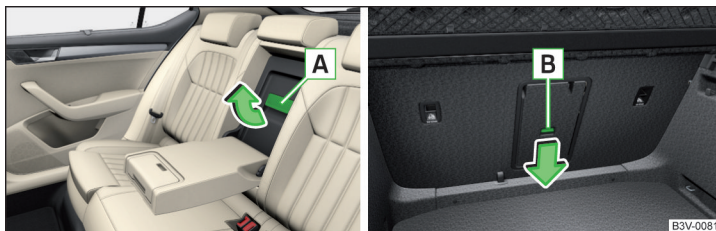

Fig. 81 Opening the cover: from inside the vehicle / from the luggage compartment
► Pull the handle **[A]** in the direction of the arrow » Fig. 81 and fold the cover forwards.
➤ Push the unlock button **B** in the direction of the arrow » Fig. 81 and fold the cover including the armrest forwards.
Ensure that the armrest is always locked into place after closing the cover. This is apparent as the red field above the unlocking button **B** » Fig. 81 is not visible from the boot.